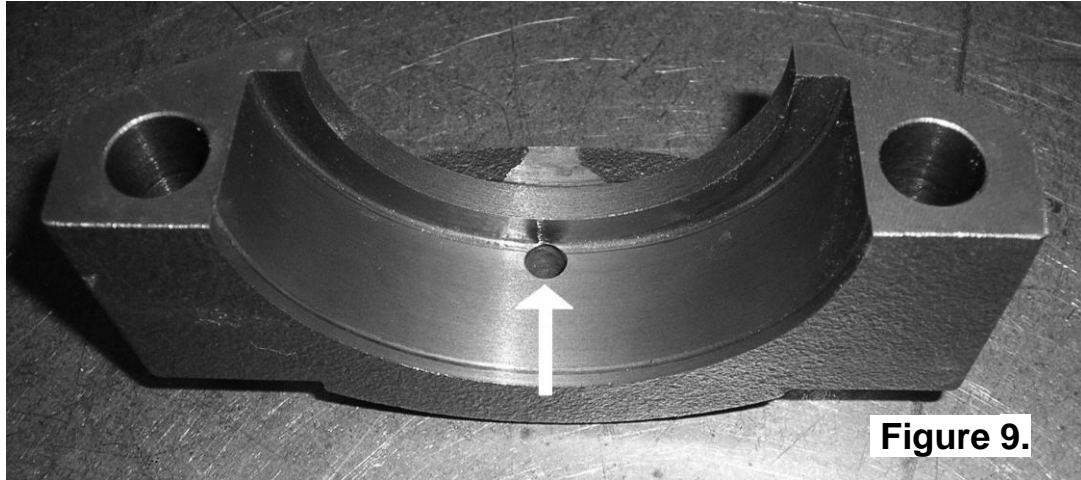

Figure 9.
- Using a pedestal drill, drill a 6.35mm [1/4"] hole through the bearing cap, in the position shown, so that the drill is against the edge of the bearing stop. (Fig.9.)